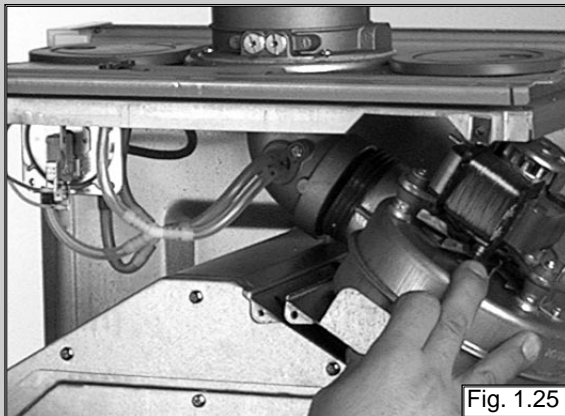

Fig. 1.25
2. Pull fan to the right, forward and remove (see fig. 1.25);